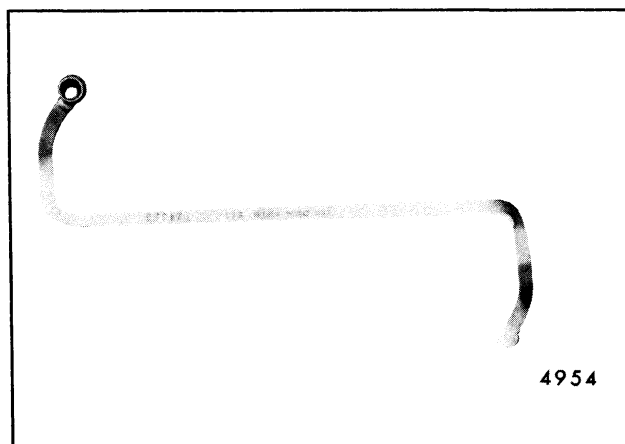

Fig. 5-56-Front Door Hinge Tool J-24353 - "A, B, C, E and F" Styles
3. For removal or adjustment of all front door hinge to body attaching bolts, use tool J-24353 - 1/2" wrench (or equivalent) as shown in Figure 5-56. After hinge adjustment, torque attaching bolts 17 to 22 foot pounds.